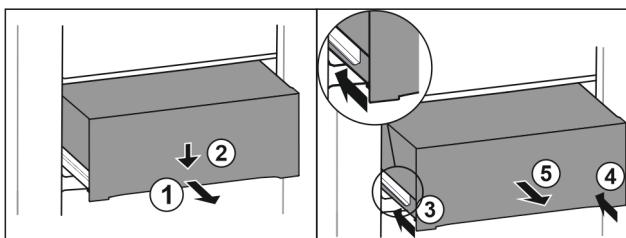

Fig. 149
- Pull out drawer half-way. Fig. 149 (1)
- Push the drawer down at the front. Fig. 149 (2)
- Push the left rail in by about 2 cm. Fig. 149 (3)
- Push the right rail in by about 2 cm. Fig. 149 (4)
- Remove drawer to the front. Fig. 149 (5)